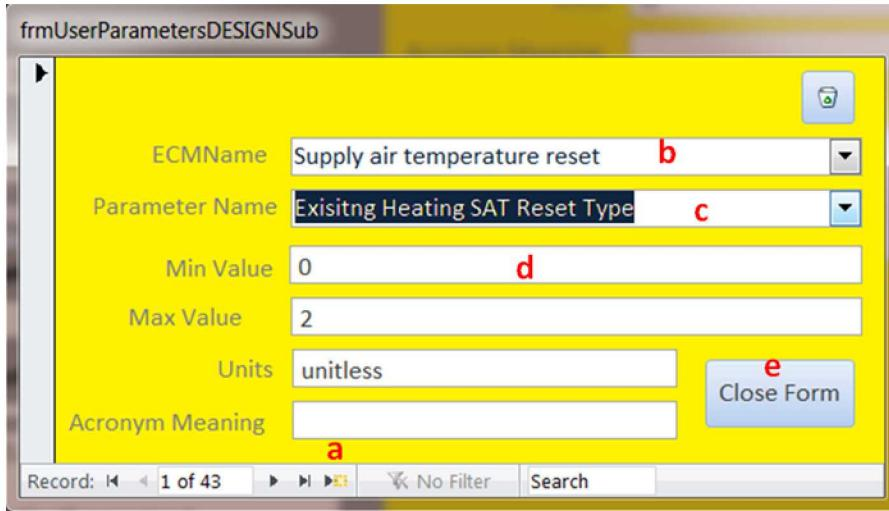

Figure 41. Add master list parameters to user input parameter list
4. Press “Add Parameters to User Input List” to define which of the parameters in step 1 are user input parameters. This opens up a new form, as seen in Figure 41, which allows the user to take parameters from the master parameter list and add them to be eligible to be user input parameters.